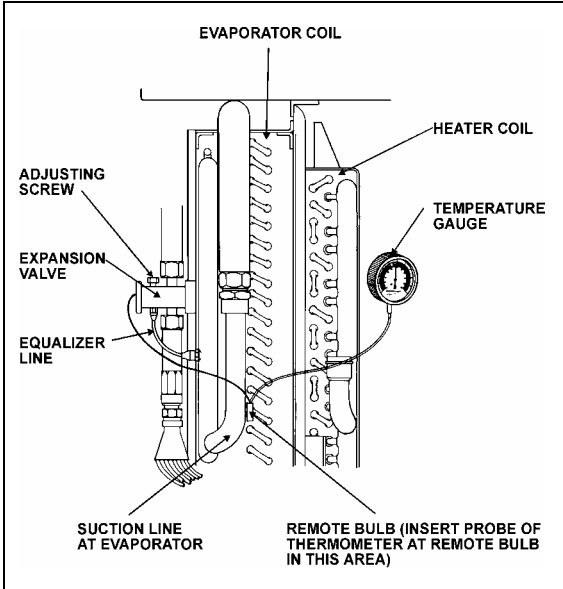

FIGURE 27: SUPERHEAT ADJUSTMENT INSTALLATION22046
The easiest method of adjusting the superheat is to unscrew completely the main evaporator expansion valve adjusting screw, and screw in 13 turns clockwise for 134A (Fig. 27). If this method does not provide an accurate superheat, the following procedure should be followed:
3. Install a remote reading thermometer to the evaporator outlet line near the existing remote bulb (Fig. 27).